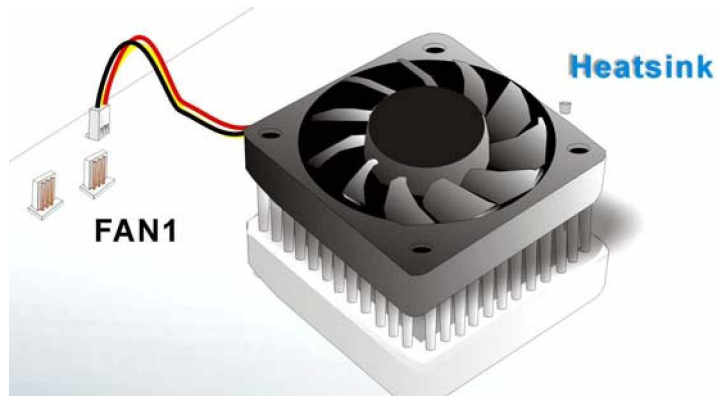

**Figure 4-4: Securing the Cooling Kit**
- Step 3: Secure the cooling kit.** From the solder side of the PCB, align the provided nut caps to the heatsink screw threads that protrude through the PCB holes. Without over tightening the nut caps, insert them onto the protruding screw threads to secure the cooling kit to the PCB board. (See **Figure 4-4**)